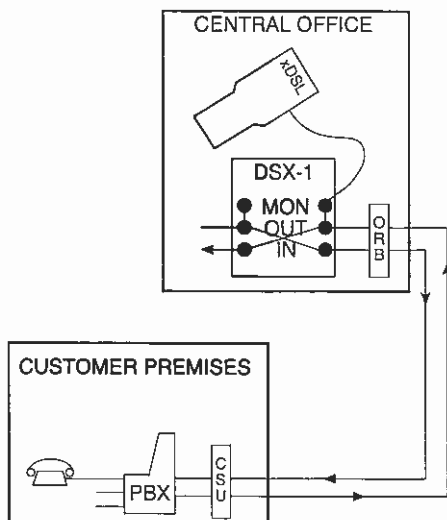

Figure 102 Monitoring a Voice Channel
This is the procedure for monitoring a voice frequency channel within a T1 circuit. The setup is illustrated in Figure 102, Monitoring a Voice Channel. This test may be performed while the span is carrying live customer traffic.
2. Connect your test set to the circuit as shown in Figure 102, Monitoring a Voice Channel.